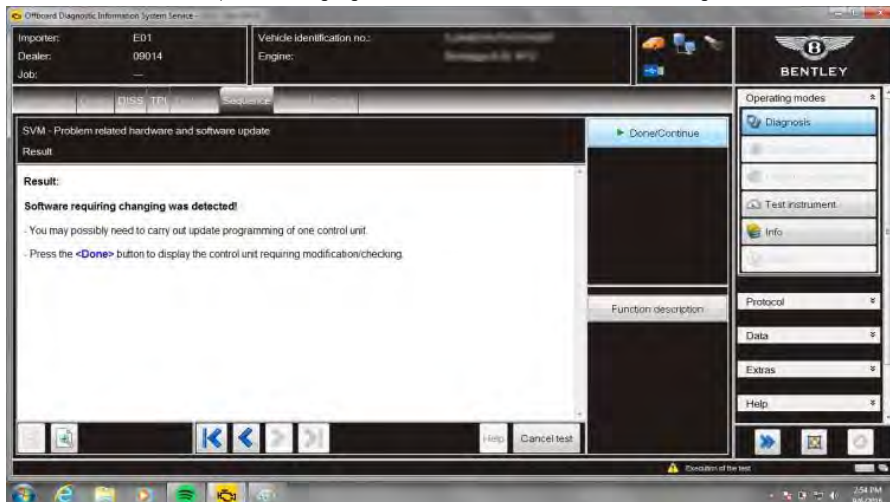

Figure 4
17. Once software that requires changing is detected, select **Done/Continue** - Figure 4.